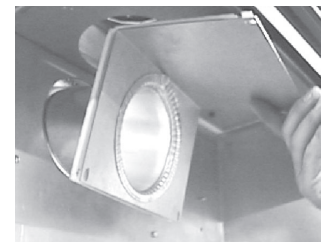

Fig. 2
- Secure the flue collar assembly, gasket and rear exit shield using the four hex head 3/8" thread cutting screws (**Fig. 2**).